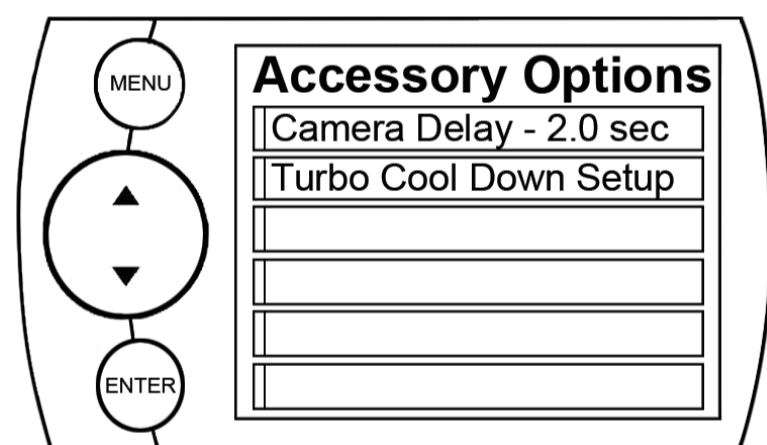

Figure 21
**NOTE:** Figure 21 depicts the programming level options for a GM product. If you have another make such as Ford or Dodge, you will notice that the levels available for your vehicle will vary from the GM options. For example, if you own a 97-09 F150, the economy level option is not available and cannot be added.